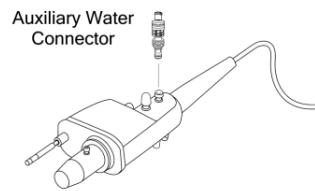

Figure 2
19. Attach the auxiliary water jet connector to the auxiliary water port by screwing it onto the port (See Figure 2). When attaching the auxiliary water jet connector to the port, take care to ensure that the auxiliary water jet connector is aligned to the port and avoid excessive tightening. Misalignment or excessive tightening of the auxiliary water jet connector could lead to the possibility of leakage. Once the auxiliary water jet connector is attached to the auxiliary